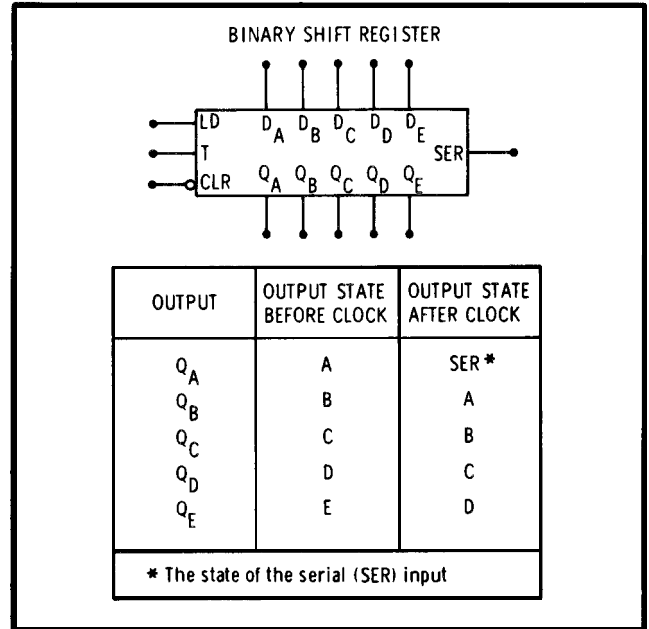

Figure 8-11. Binary Shift Register
**8-57. Binary Shift Register.** A five bit binary shift register is shown in Figure 8-11. Information of the data (Dn)\* inputs is transferred to the respective Qn\* outputs when the load (LD) input is high. The load input is independent of the clock (T) input.